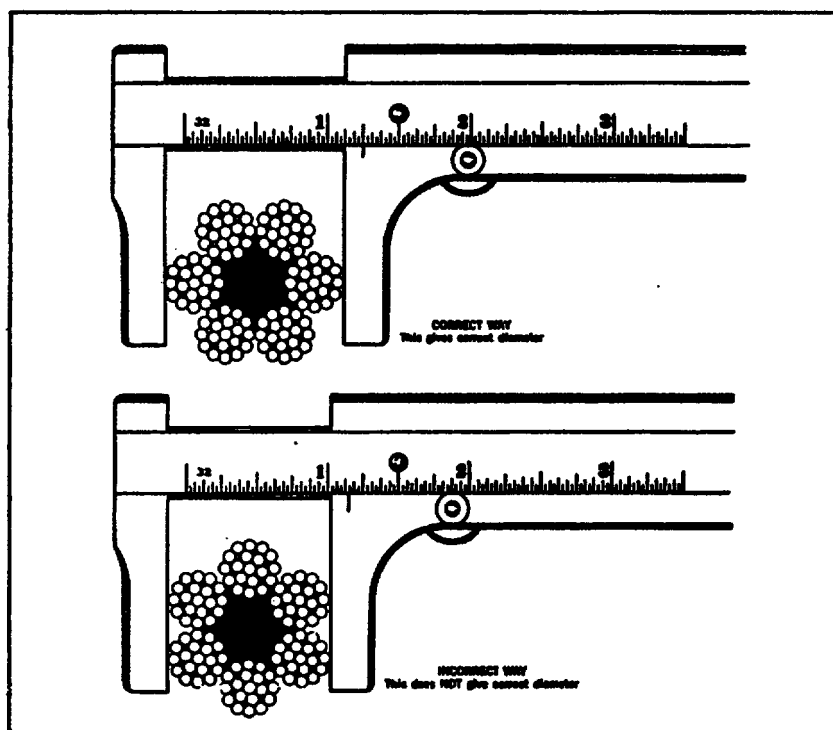

Fig. 2-8 Measuring wire rope diameter
10. **Diameter the D** meter of a wire rope is the distance between the rows of two opposite strand (See **Figure 2-8**). This is easily measured by rotating a caliper around the rope so the highest points are measured. Ropes are referred to by their nominal diameter. American made wire rope will be delivered about 5 percent oversized.